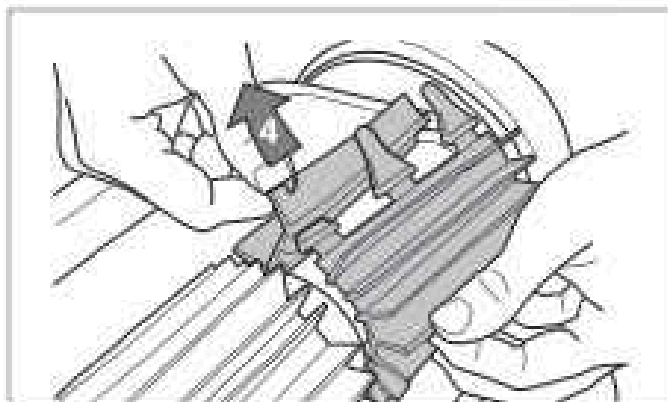

Figure 29. Pull Tabs Through Each Slot
4. Thread each tab into the slot provided and gently feed it through until the heel comes out at the other side of the slot (Figure 29).